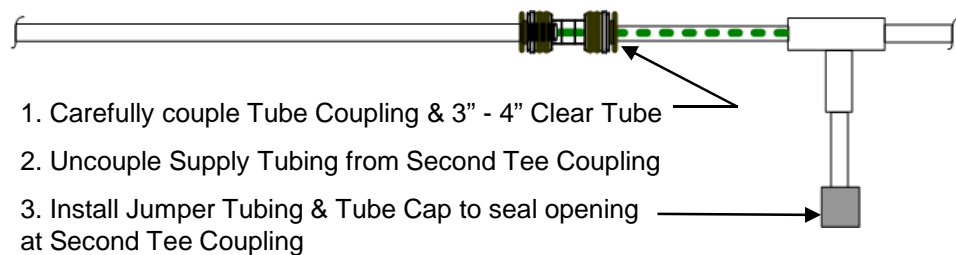

Figure 7D
9.14 **Key Step.** Carefully bring Tube Coupling and 3" - 4" length of 8mm Clear Tube together and couple. Any fiber bundle slack may wave or snake inside 8mm Clear Tube as connection is made. **See Fig. 7D.**
11.3 Push-fit a short length of tubing into Branch Leg of Second Tee Coupling. Push-fit a Tube Cap onto end of short tubing to seal Second Tee Coupling. **Refer to Fig. 7D.**